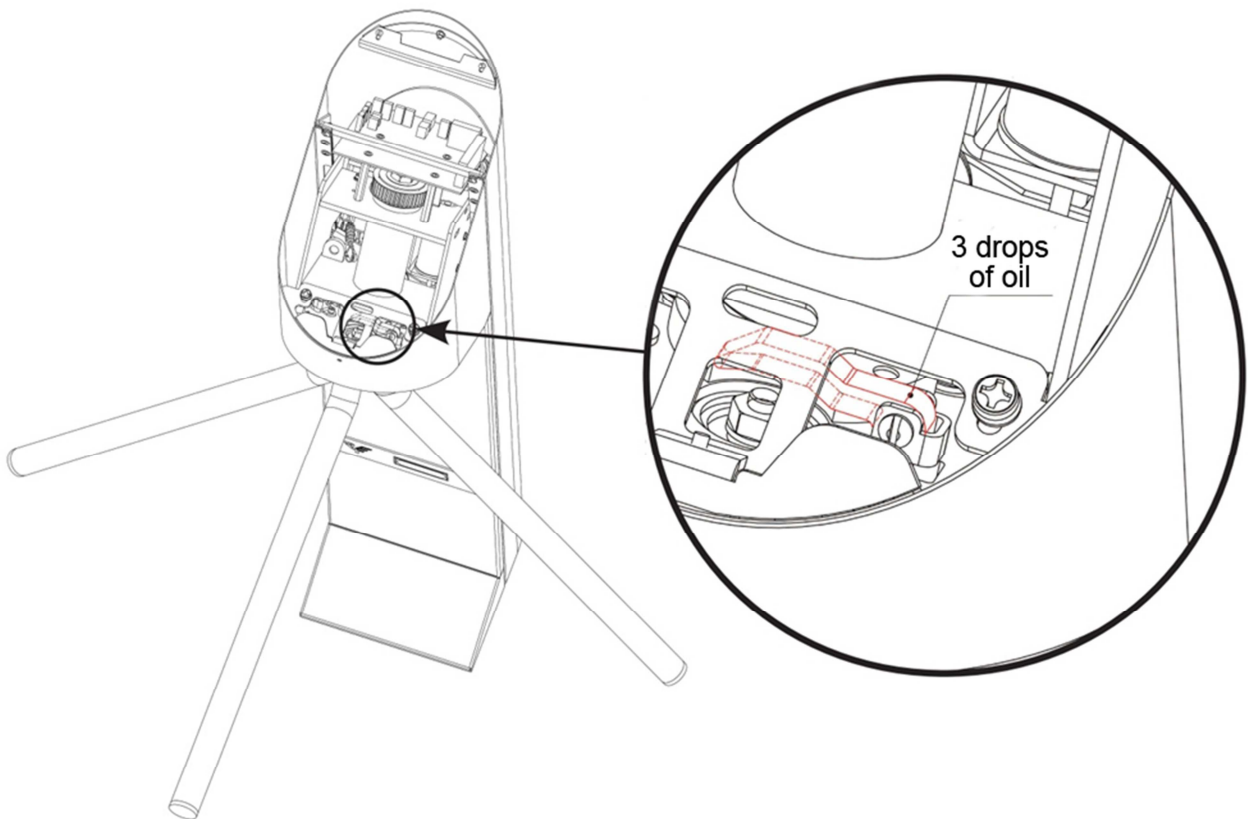

Fig.15
5.4. The rotation axis of unlocking arms cam (Fig. 15).